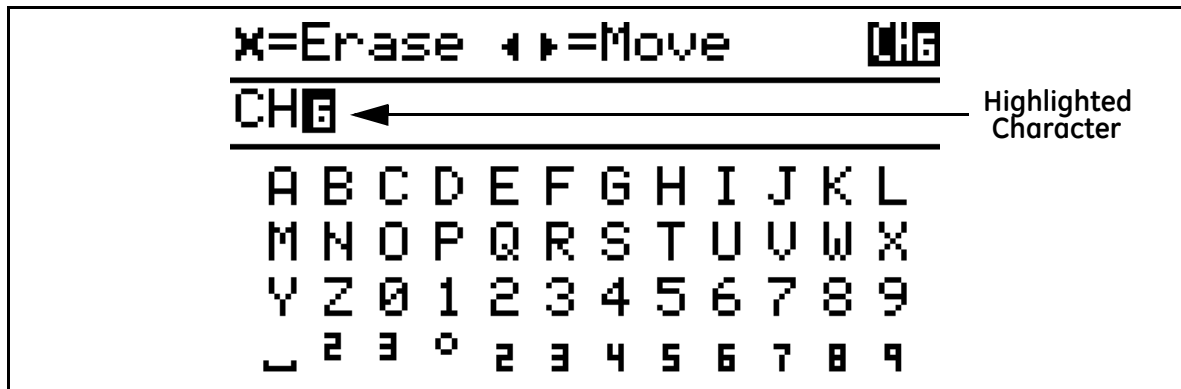

Figure 15: Text Edit
- Pressing the **Down** arrow will move the highlight to the **Text Edit** section (see *Figure 15* below):